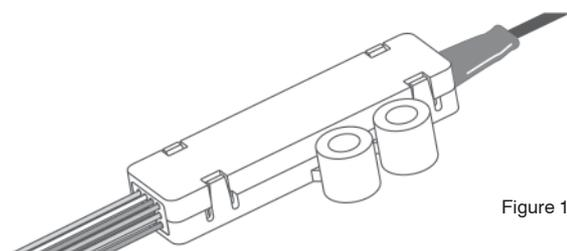

Figure 1
**1.2** Fan-Outs branch the fibers from a buffer tube into individual fibers protected by 900 µm PVDF protective tubing (Figure 1). The fibers can then be connectorized according to hardware interface requirements. An assembly kit (TKT-FANBT-A) is available to assist in the installation of the BTF fan-outs.